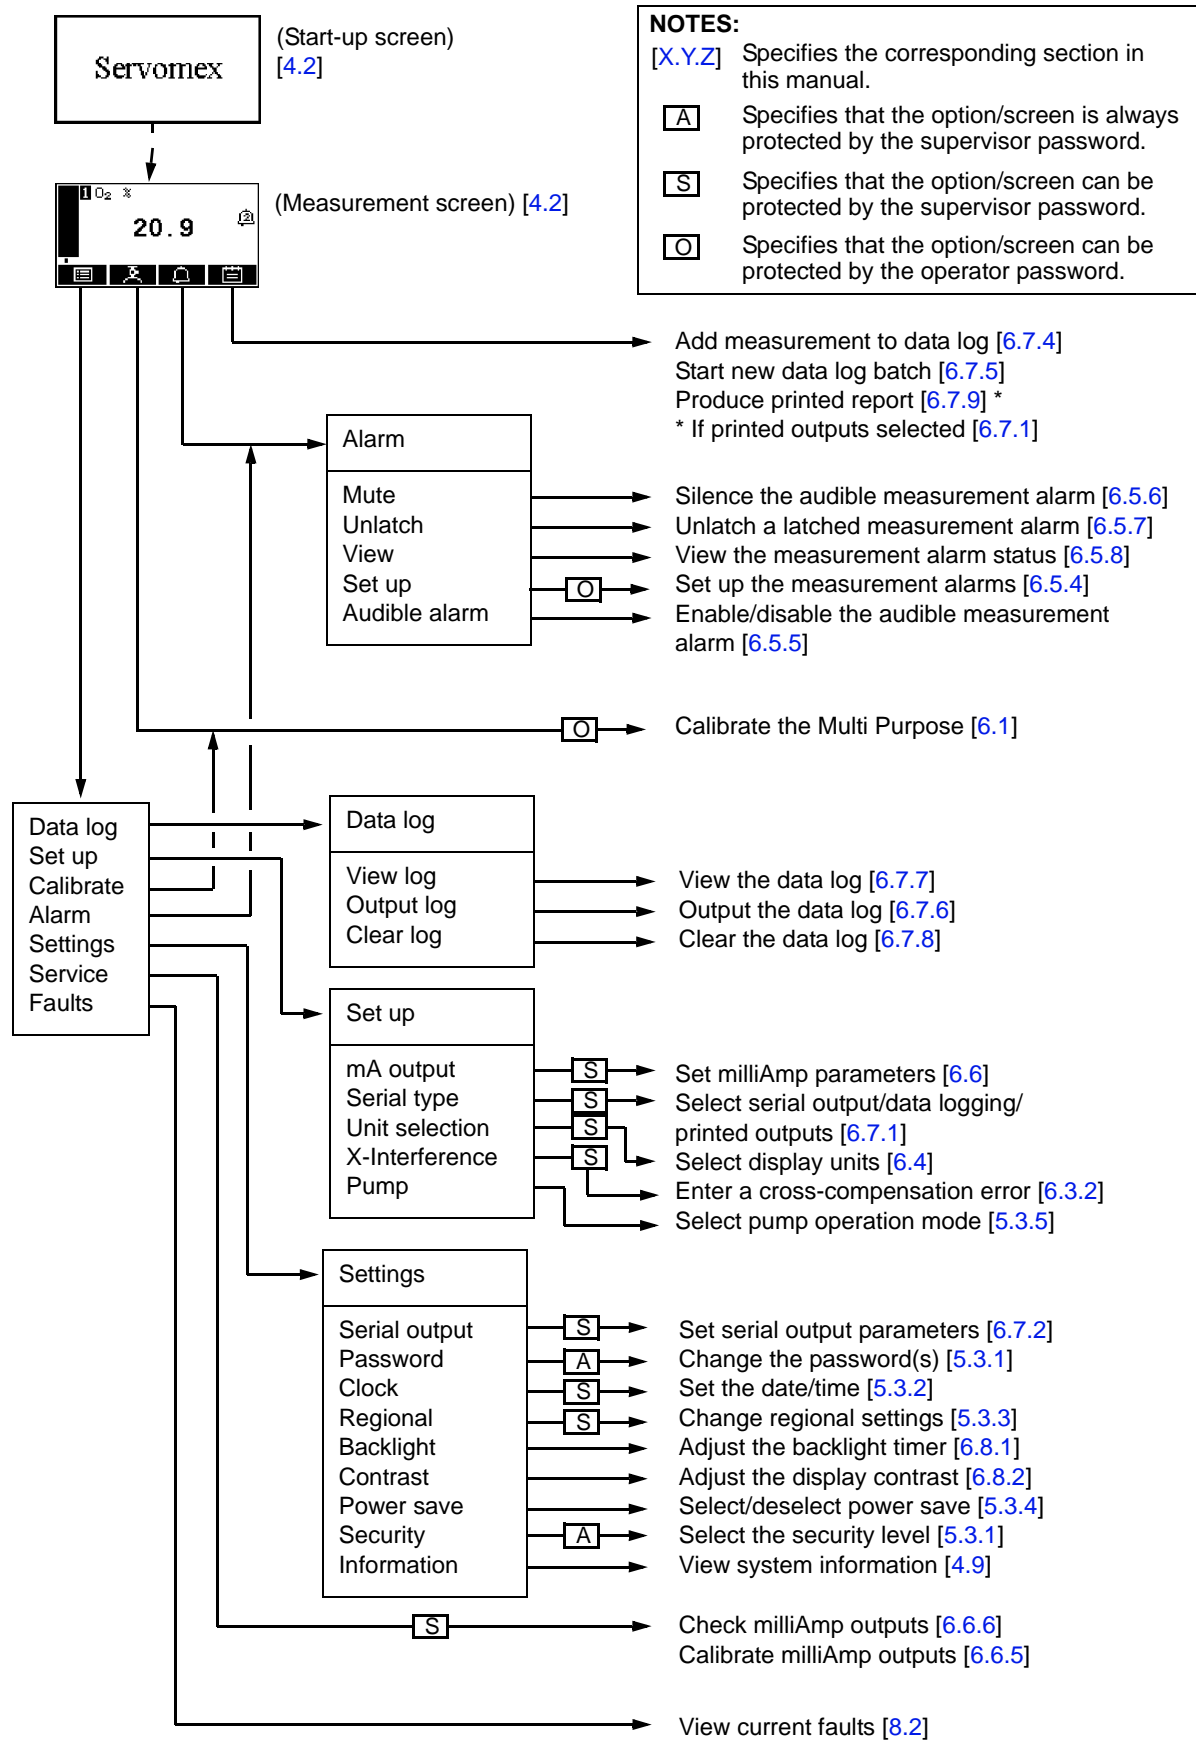

Figure 4 - The Multi Purpose menu structure
- + If no soft key is pressed for 10 minutes, the Measurement screen will be automatically displayed. (You will also then have to enter the password again to access any password-protected screens: refer to Figure 4 and to Section 4.6.)
The menu structure of the Multi Purpose is shown in Figure 4, which shows that some of the options/screens are password protected.